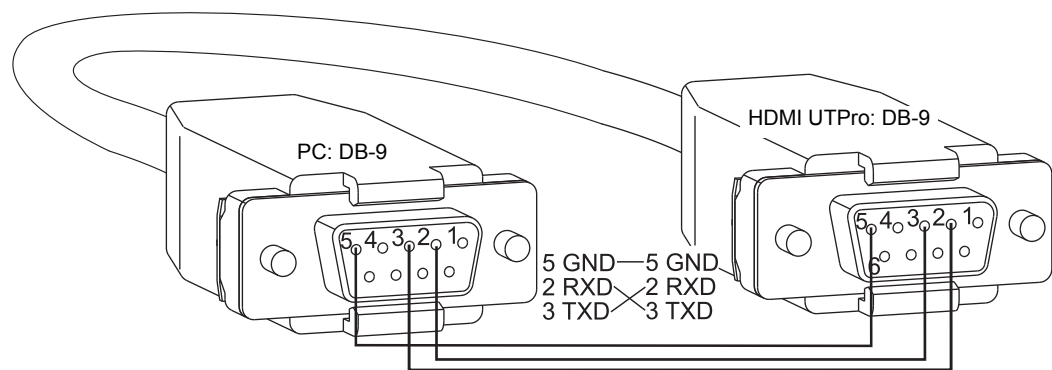

FIG. 28 RS-232 null modem pin diagram, no hardware flow control
1. Use a null modem cable that matches the pin diagram in FIG. 28 for RS-232 without hardware flow control. The AMX equipment requires pins 2, 3, and 5 only.